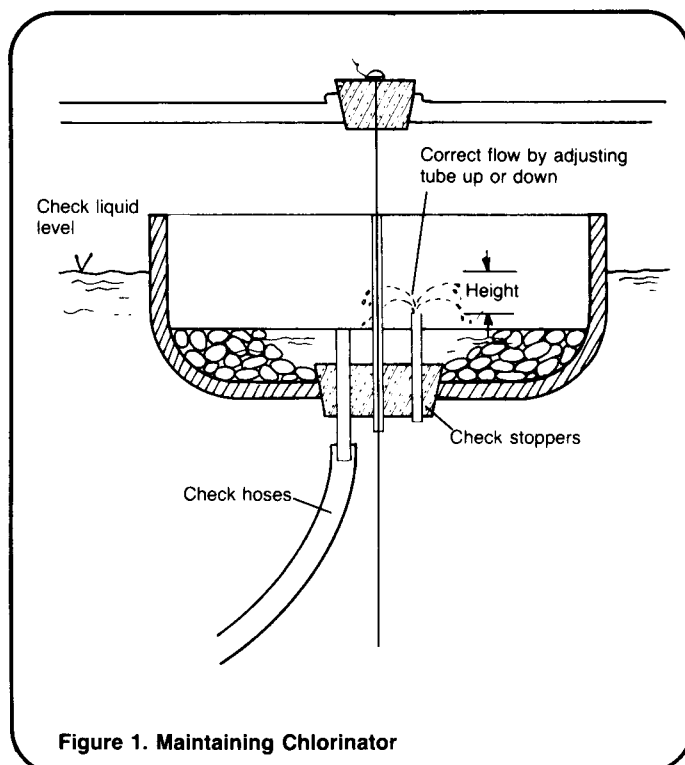

Figure 1. Maintaining Chlorinator
- Determine whether the flow of chlorine solution from the feeders is correct. If not, adjust the tube that lets the solution into the bowl. Raising the tube reduces the flow, while the flow is increased by lowering the tube. See Figure 1. Flow can also be controlled by using a clamp on the rubber hose.